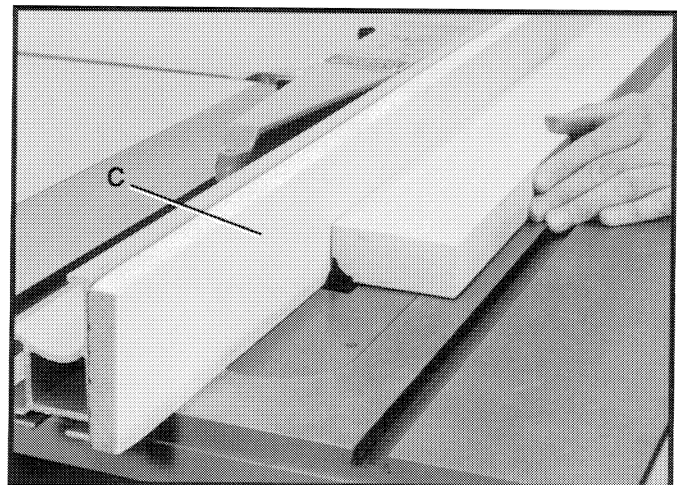

Fig. 95
It is necessary when using the moulding cutterhead to add wood-facing (C) to the face of the rip fence, as shown in Fig. 95. The wood-facing is attached to the fence with wood screws through holes which must be drilled in the fence. 3/4 inch stock is suitable for most work although an occasional job may require 1 inch facing.
Position the wood-facing over the cutterhead with the cutterhead below the surface of the table. Turn the saw on and raise the cutterhead. The cutterhead will cut its own groove in the wood-facing. Fig. 95, shows a typical moulding operation. **NEVER USE MOULDING CUTTERHEAD IN A BEVEL POSITION.**